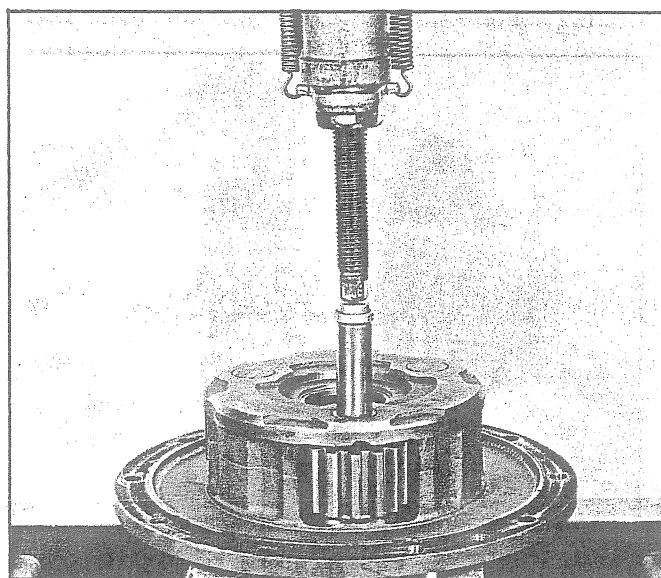

Fig. 39 - Pressing Shaft from Pinion
- a. With sun gear removed, place planetary assembly in a suitable press as shown in Fig. 39.